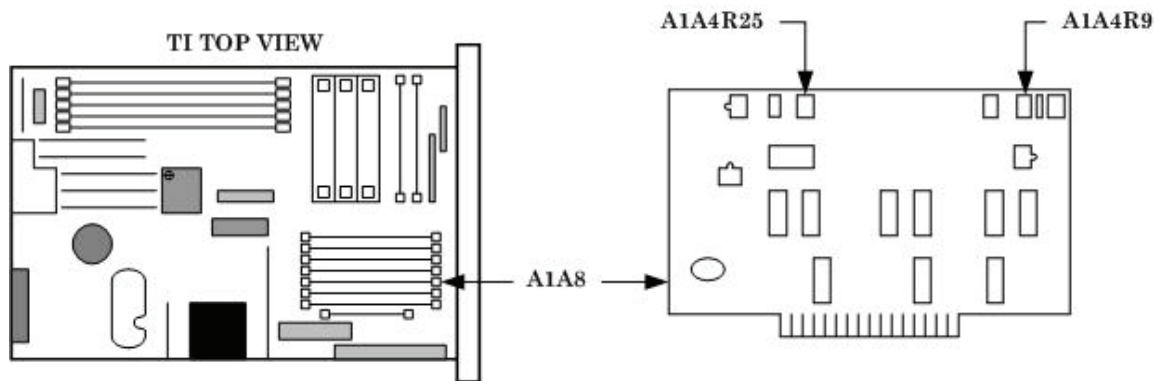

Figure 9. A1A4 adjustment locations.
- (7) Adjust A1A4R25 (fig. 9) for best pulse shape (R).
- (8) Adjust A1A4R9 (fig. 9) cw until **ALC UNLEVEL** light is on, then adjust A1A4R9 ccw until **ALC UNLEVEL** light is extinguished (R).
- (9) Reduce all outputs to minimum.
- (10) Replace TI top cover.